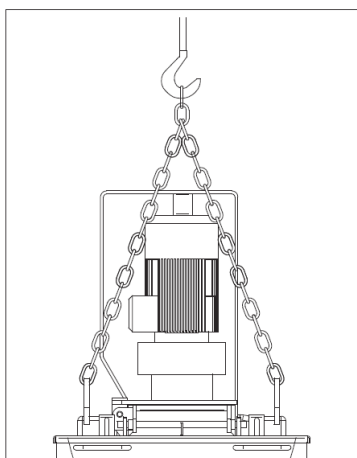

FIG.3
To lift the machine, use the specific attachment rings (fig.3).
**⚠ - Caution! Never use points other than as specified in figure 3 to lift the machine and in particular do not hook up lifting equipment to the gearmotor guard.**